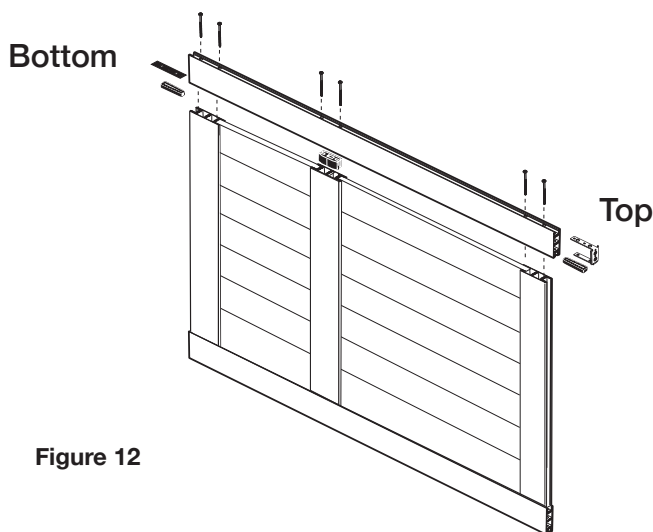

Figure 12
Secure the remaining stile (A) (repeat of step #4). Make sure the side with the large holes is facing outward. Insert one of the Reinforcement plates (B) into the bottom of the Stile into the innermost chamber of the Stile. Place 2 of the 4" screws (Z) into the 2 holes in the outside of the channel. Make sure they are fully inserted. Slide a Reinforcement clip (D) into the channel and over the screw shafts. Place the end of the Bottom rail (C) against the screws, lining up the holes in the extrusion. Once in place, tighten screws until stile and bottom rail are about 1/2" apart. Do not tighten fully. For Center Rail (E) (repeat of step #5), place 2 of the 4" screws (Z) into the pre-drilled holes in the stile, making sure they are fully inserted. Snap a center rail stopper (F) into the channel between the 2 screw shafts. Once in place, snap each screw shaft into the outer channels of the stopper. Place the Center rail against the screws, lining up the holes in the extrusion. Once in place, tighten screws until stile and center rail are about 1/2" apart. Do not tighten fully. Insert U bracket (G) (repeat of step #6) into the Top of the stile into the outside channel and the innermost channel. The side of the U clip with the larger holes should be facing the outside edge of the door. The top of the U clip will rest on the top of the stile once inserted. Place 2 of the 4" screws (Z) into the 2 holes in the outside of the Stile channel. Make sure they are fully inserted. Slide a reinforcement clip (D) into the channel and over the screws shafts. Insert two small screws (Q) into the oval holes on the top of the U bracket and secure to the top of the stile. Take 2 small screws (Q) and secure into the oval holes in the outside of U bracket (G). This will be the outside channel of the stile. Make sure the holes in the extrusion on the Top rail (C) line up against the screws. Once in place, continue tightening screws until stile and rail are flush and secure. Go back and fully tighten the screws in the Center and Bottom Rails. See Figure 12.